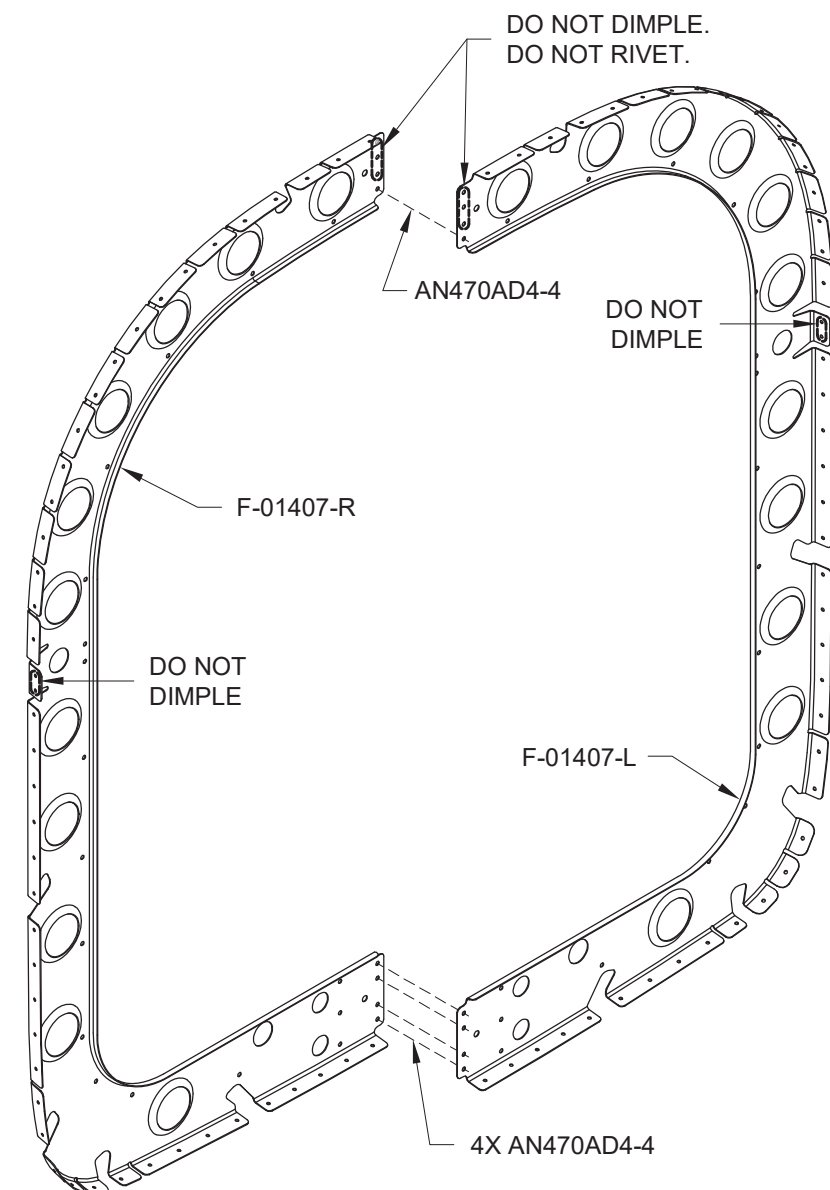

FIGURE 1: F-01407 BULKHEAD
Step 4: Cleco, then rivet, the F-01407-L & -R together as shown in Figure 1.